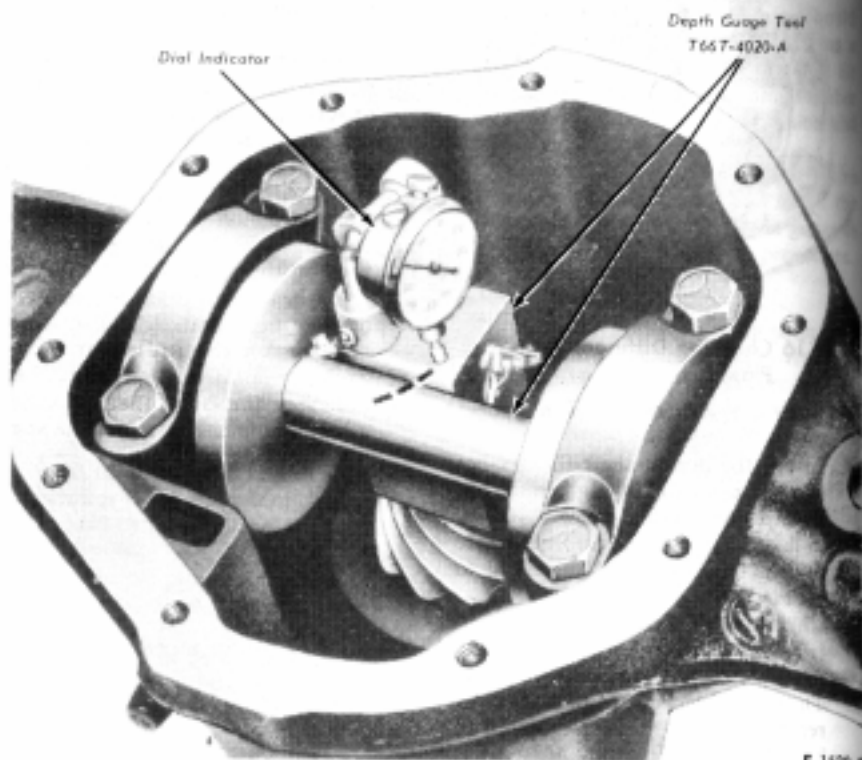

FIG. 19 Checking Pinion Depth
With the pinion installed in the housing and the bearing preload within limits, check the depth setting (actual assembly dimension) with the gauge shown in Fig. 19.
7. With the indicator button resting on the flat of the gauge block, set the dial face to read zero. Swing the indicator (Fig. 19) to the highest point on the gauge shaft and note the reading at the highest point. The highest point on the gauge shaft is the point of highest indicator reading while the indicator hand is moving clockwise. When the hand reverses and starts moving counterclockwise the highest point has been passed.